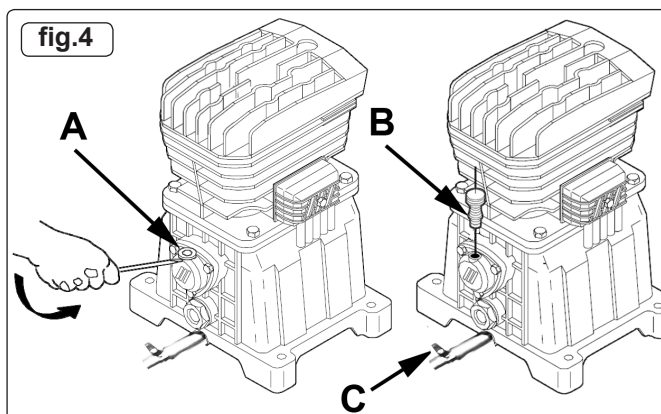

fig.4
- a) Replace the lubricating oil. For oil specifications see 5.6. Remove the filler/breather plug (see fig.4-B) then open oil drain tap, draining the oil into a container. Drain when the compressor is hot so that the oil drains rapidly and completely. Replace oil drain plug and refill through the filler/breather aperture. **DO NOT** overfill. Check sight glass for correct level. Replace plug.